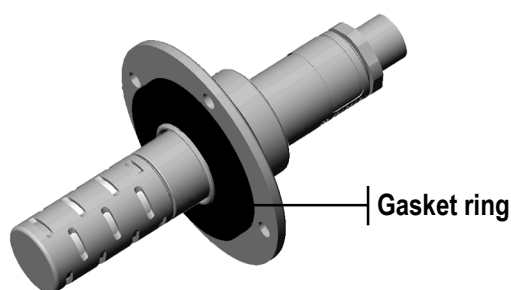

Figure 5. Mounting the probe in a duct or channel.
3. Place the probe through the flange so deep that the perforated head is completely in the duct (see Figure 5).